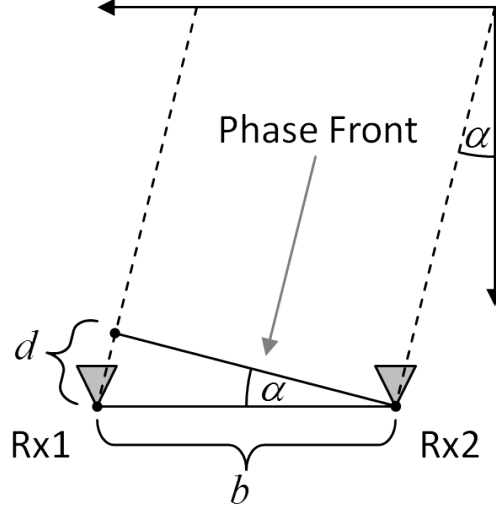

Figure 4.3: Estimation of the View Angle using two receiver antennas
The IMST's sentireTM Radar Module is equipped with two independent receiver antennas for measuring the Angle-of-Arrival of a received signal. This feature can be used to generate a 2-dimensional reflectivity map of the illuminated scene. To derive the formula for the view angle extraction, two receiver antennas separated by a baseline b are assumed (see figure 4.3). Further, a plane phase front shall arrive from the direction defined by the angle α . Consequently, the incident wave arrives at antenna Rx1 a little bit later compared with antenna Rx2. With the center frequency f_c , this causes a phase shift φ between both receiver antennas, given by the formula:
- the assumption of a plane phase front (see figure 4.3) is only valid for targets located in the far-field of the antenna,